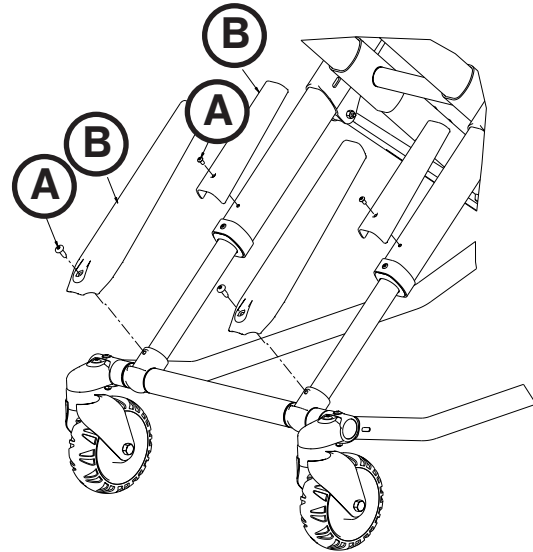

Figure 79
2. Using a T27 Torx driver, remove the truss head screw (A) that secures the X-frame guard (B) to the inner tube (see Figure 79)
4. Remove the outer tube X-frame guard and set aside to reuse on the new outer tube (see Figure 79 on page 75).